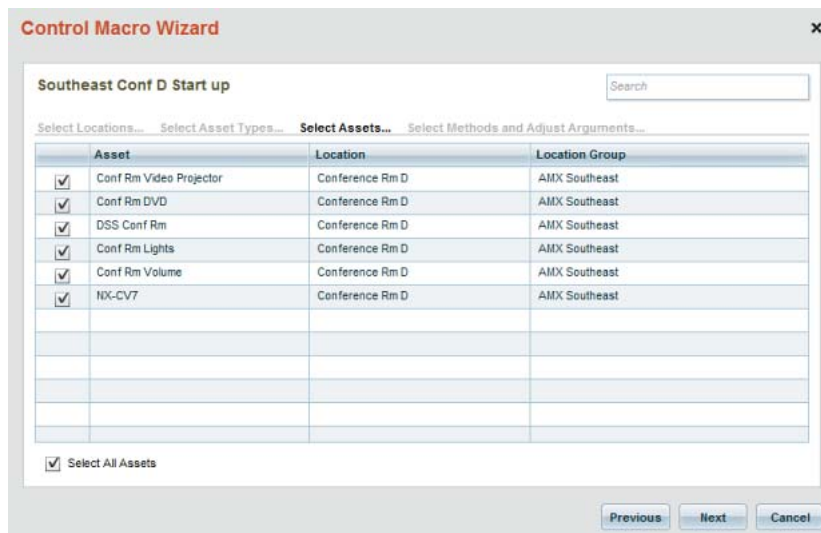

FIG. 280 Control Macro Wizard - Select Assets
- Select one or more Assets to be included in this control macro (FIG. 280).
- Select one or more control methods to be included in this macro (FIG. 280).